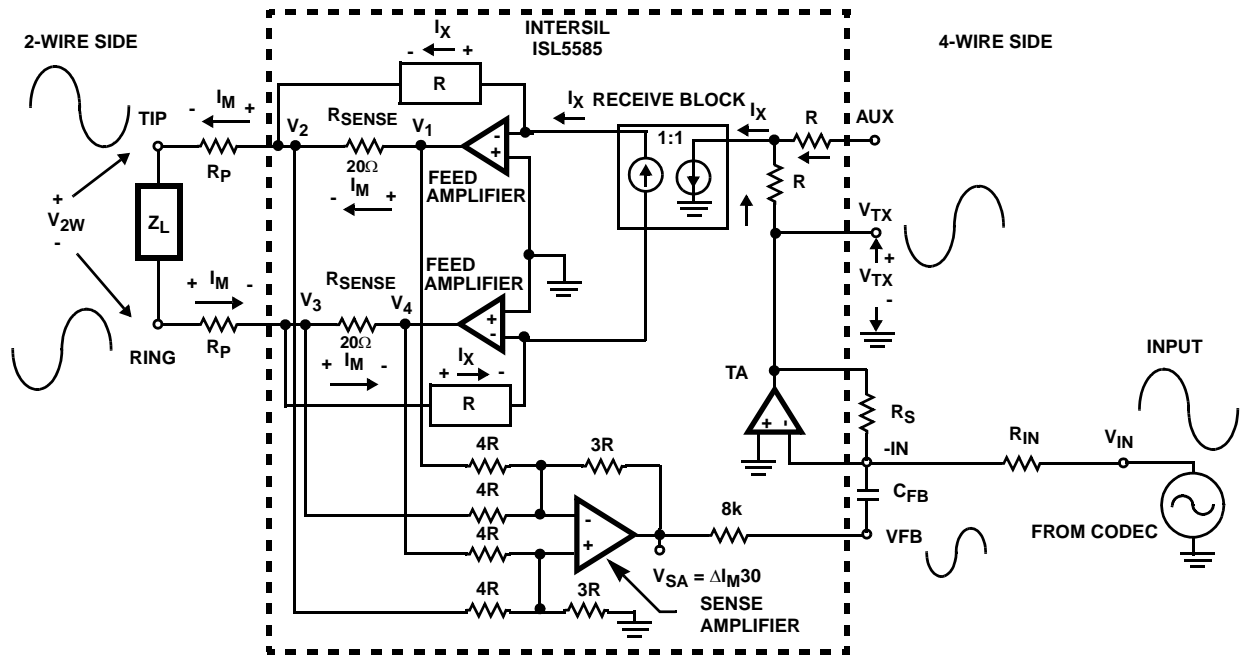

FIGURE 6. 4-WIRE TO 2-WIRE SIGNAL PHASE ACROSS THE ISL5585
Figure 6 illustrates the phase of the input signal across the ISL5585 when the signal is applied at the -IN pin of the ISL5585 through the R_{IN} resistor. The Transmit Amplifier (TA) inverts the signal 180 degrees at the V_{TX} pin. The feedback around the tip amplifier inverts the signal again on the tip lead. The input signal will cause AC loop current to flow through the 20Ω sense resistors in the direction from V1 to V2 and V3 to V4. This results in an inverted signal (referenced from tip) on the VSA and thus the VFB pin. This out of phase signal is the signal used by the feedback path to match the line impedance of the 2-wire side.